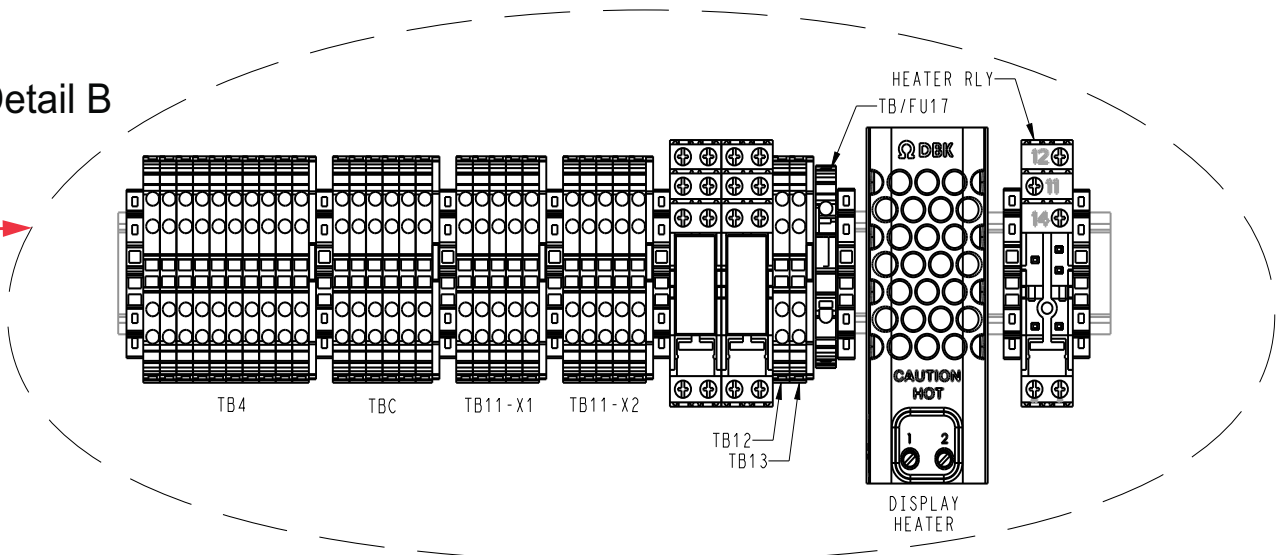
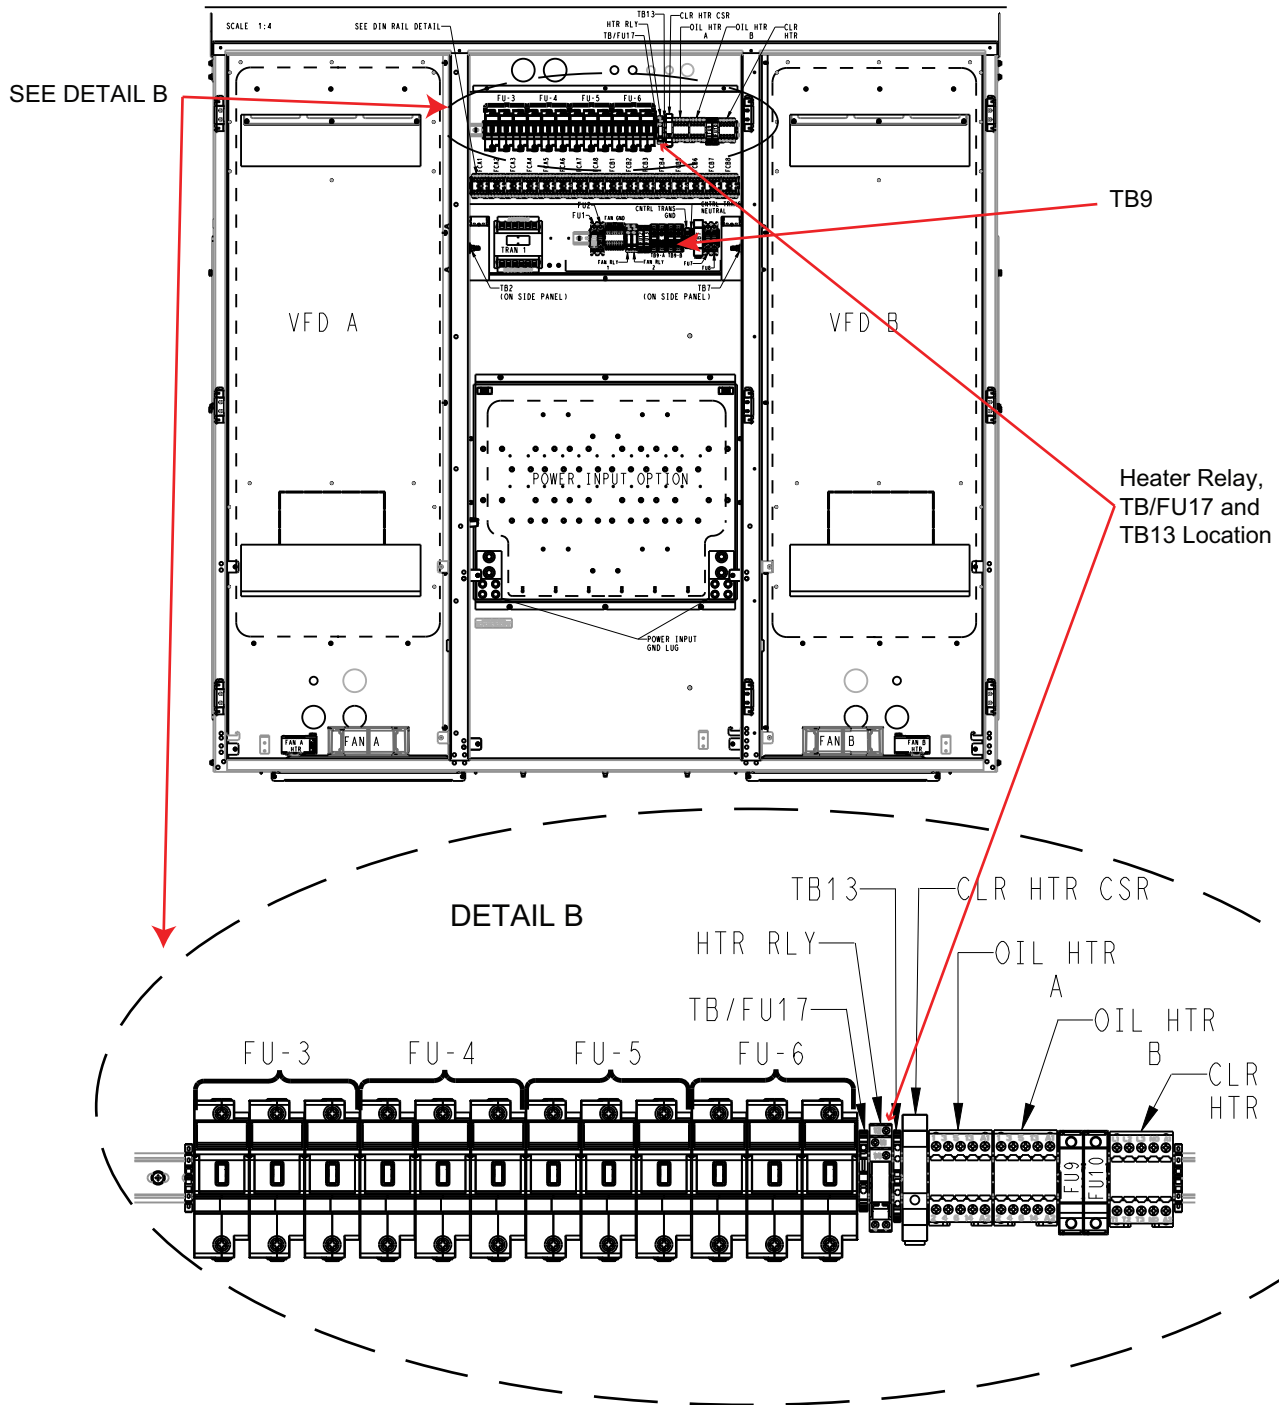
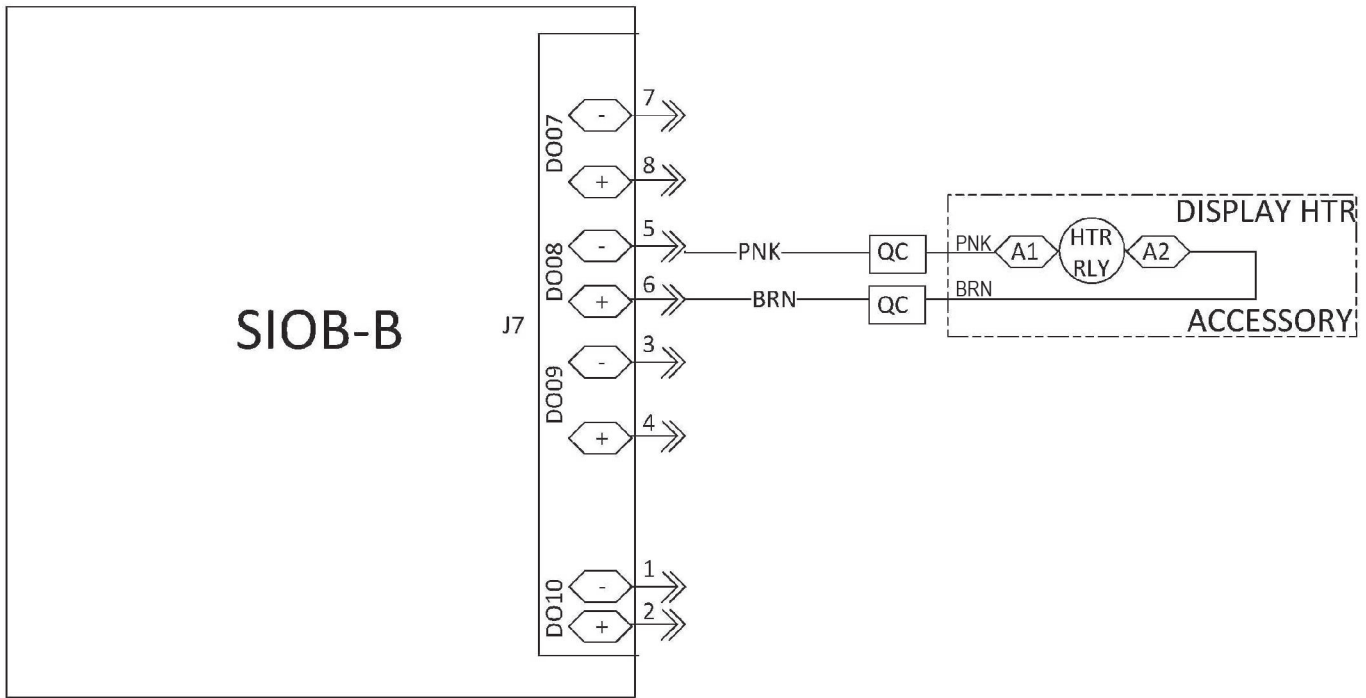
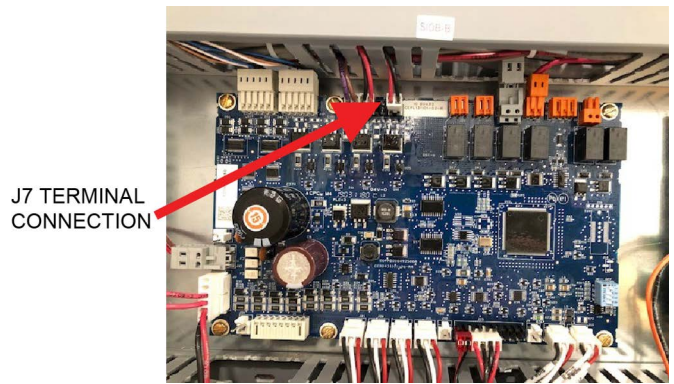

Fig. 4 — Carrier Controller Heater Location for 30XV140-325
Fig. 5 — Carrier Controller Heater Relay and Fuse Installation Location for 30XV350-500
Fig. 6 — Carrier Controller Display Heater Accessory Controls Wiring Diagram
Fig. 8 — Location for Heater Control Wiring Connection 30XV350-500
5. Locate fuse (Item 2) and install it in fuse holder/terminal block (TB/FU17) (Item 3). Install the fuse holder/terminal block (TB/FU17) in location shown in Fig. 4 for 140-325 ton units or Fig. 5 for 350-500 ton units.
6. For 30XV350-500, locate the Terminal Block End Cover (Item 12) and the Terminal Block (Item 11). Install the terminal block and terminal block end cover to the right of the Fuse Holder/Terminal Block TB/FU17 (Item 3) as shown in Fig. 5.
7. For 350-500 ton units, locate heater relay (Item 6; shown as Display HTR RLY on wiring diagram) and install in relay holder (Item 5). Install relay holder in location shown in Fig. 4 for 140-325 ton units or Fig. 5 for 350-500 ton units.
8. Install display heater (Item 1) in location as shown in Fig. 4 for 140-325 ton units or Fig. 3 for 350-500 ton units.
10. For 30XV140-325, locate wire harness (HARNESS ASSY, PN 30XV50128001, Item 7) and refer to Fig. 6 and 7. Connect pink wire labeled SIOB-B J7 5 QC to the pink wire with same labeling and quick connect near SIOB-B board connection (see Fig. 4 and 7). Connect the other end of the pink wire labeled HTR RLY A1 to terminal A1 on the relay holder (Item 5). Connect the brown wire labeled SIOB-B J7 6 QC to the brown wire with same labeling and quick connect near SIOB-B board connection (see Fig. 4 and 7). Connect the other end of the brown wire labeled HTR RLY A2 to terminal A2 on the relay holder (Item 5).
11. For 30XV350-500, locate wire harness (HARNESS ASSY, PN 30XV50128101, Item 8) and refer to Fig. 6 and 8. Connect the pink and brown wires (attached to connector) to the SIOB-B board terminal J7, positions 5 and 6 (as shown in Fig. 8). Connect the other end of the pink wire labeled HTR RLY A1 to terminal A1 on the relay holder (Item 5). Connect the other end of the brown wire labeled HTR RLY A2 to terminal A2 on the relay holder (Item 5).
NOTE: The control wiring for 30XV140-325 has quick connect connectors as shown in Fig. 6 and 7. The control wiring for 30XV350-500 comes factory wired with the connector that plugs directly onto the SIOB-B board as described in Step 11.
12. For 30XV140-325, terminal blocks TB12 and TB13 are factory installed and wired to TB9-L1 and TB9-L2 respectively. Using wire harness (HARNESS ASSY, PN 30XV50128001, Item 7), refer to Fig. 4 and 9 and connect the black wire labeled TB12 to an open connection point on terminal block TB12. Connect the other end of the black wire labeled TB/FU-17 into the terminal on TB/FU-17 fused terminal block. Connect the black wire labeled TB/FU-17 into the other side of TB/FU-17 fused terminal block
14. Verify point to point continuity of wiring per diagram in Fig. 6, 9 and 10.